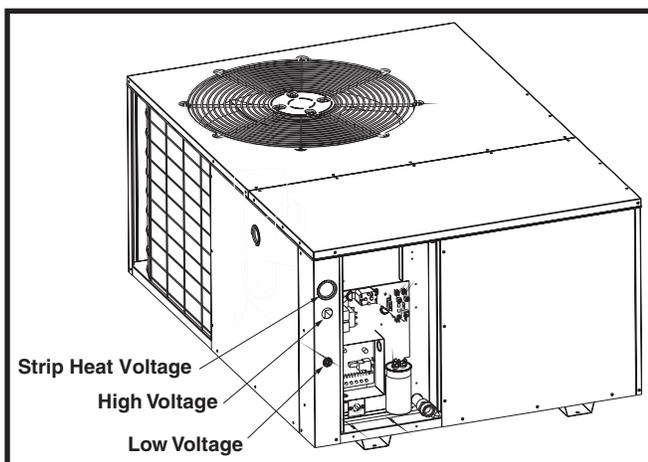

Figure 8. Power Entry
- Provide power supply for the unit in accordance with the unit wiring diagram, and the unit rating plate. Connect the line-voltage leads to the terminals on the contactor inside the control compartment. Extend leads through power wiring hole. See Figure 8. Connect **L1 & L2** directly to the contactor.